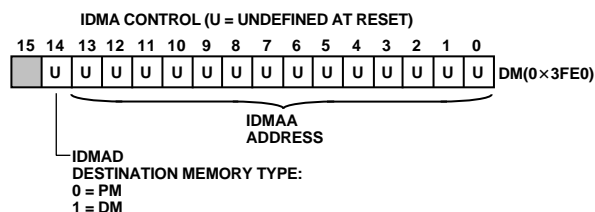

Figure 8. IDMA Control/OVLAY Registers
Through the IDMAA register, the DSP can also specify the starting address and data format for DMA operation. Asserting the IDMA port select (IS) and address latch enable (IAL) directs the ADSP-2185L to write the address onto the IAD0-14 bus into the IDMA Control Register. The IDMAA register, shown below, is memory mapped at address DM (0x3FE0). Note that the latched address (IDMAA) cannot be read back by the host. See Figure 8 for more information on IDMA and DMA memory maps.